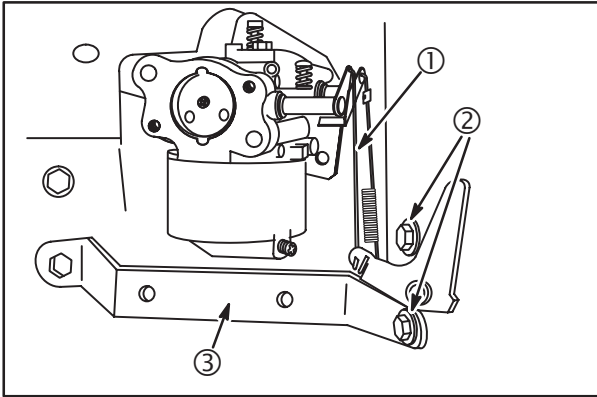

Fig. 9
2. Remove two screws (2) and choke control bracket, **Fig. 9**.
3. Disconnect choke link (1) from carburetor.
NOTE: If engine is equipped with anti-afterfire solenoid, air cleaner bracket (3) must be removed BEFORE removing carburetor, **Fig. 9**.